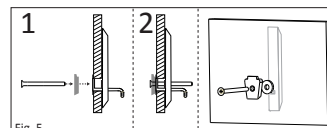

Fig. 5
- As you hold the flange and apply pressure to the bar by pulling outward, align the hole in the mounting bracket with the center hole of the flange and insert a 3" machine screw into the mounting bracket and then the center hole of the flange. Ensure that the mounting bracket is positioned upright with the tab on the large side facing upwards. Next align the machine screw with the threaded insert in the bar and tighten enough to keep the bar upright. DO NOT COMPLETELY TIGHTEN. (see Figure 5).
14. Alors que vous tenez la colerette et faites pression sur la barre en tirant vers l'extérieur, insérez une vis de 3 po (7,62 cm) dans le trou central de la colerette. Ensuite, insérez la vis à métaux dans le trou fileté de la barre et serrez suffisamment pour maintenir la barre droite. NE SERREZ PAS COMPLÈTEMENT. (Fig. 5).